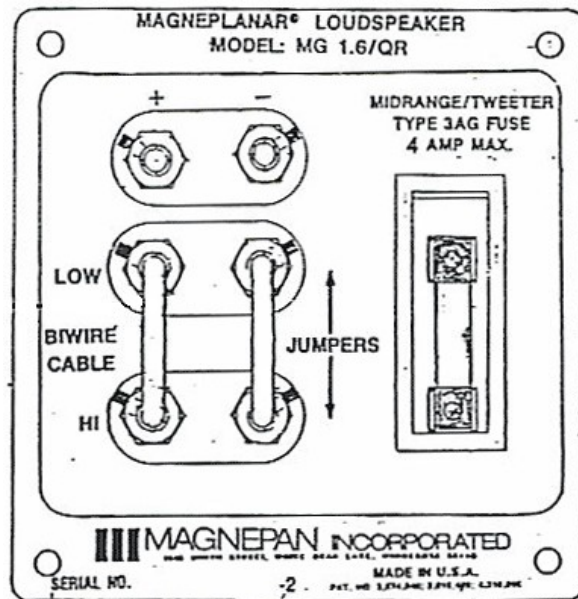

Figure 5
- B. The Magneplanar Quasi Ribbon Tweeter is very efficient in its total "energy dispersion." If the surrounding walls are exceptionally reflective, the overall perceived acoustical balance will be tipped towards a "hot" high end. Attenuation is performed through insertion of a simple non-inductive resistor in series with the tweeter. See Figure 5. Replace the left-hand jumper with the appropriate resistor to obtain the desired tweeter attenuation. The pair of 1 ohm non-inductive resistors will attenuate the tweeter 1-2dB. Other values are available from your Magneplanar dealer.